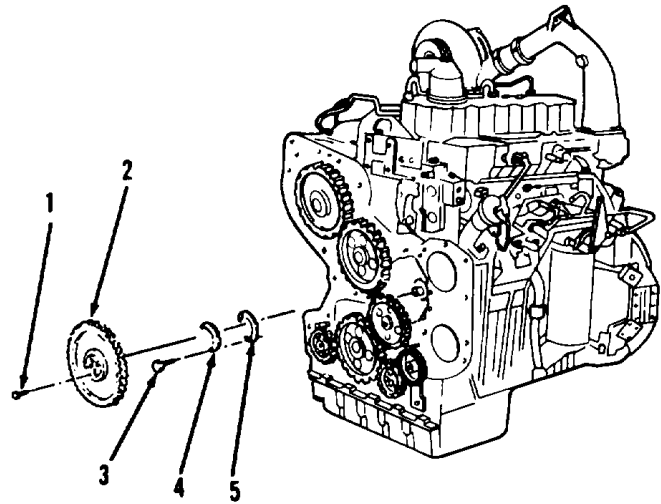

Figure 13-53.
10. Bend two locks (4) to lock bolts (3, Figure 13-53).
12. Install four bolts (1, Figure 13-53) and tighten to 41 ft-lb torque.